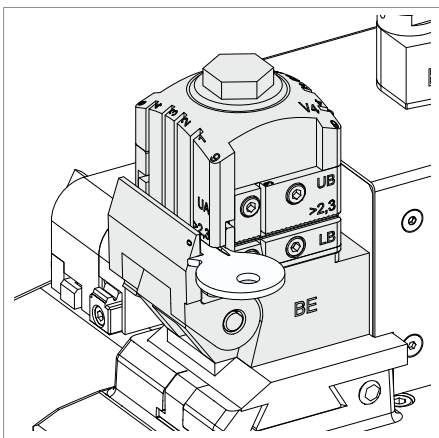

Fig. 129
- 2) Fit the template Z3 on side A of the clamp (**BE-V4 LA-UA**) with the stop all the way up against the gauge (Stop 0) (Fig. 129).